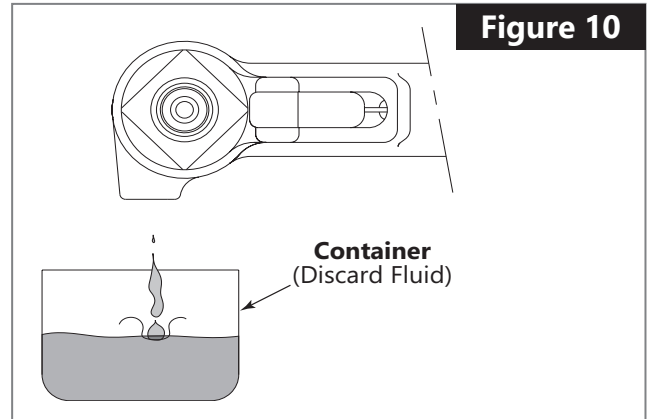

Figure 10
2. Connect the tool to the shop air. If fluid is present, hold the tool over a suitable container with fill port facing into container. Cycle the tool several times to drain old fluid, air, and foam. (Figure 10)